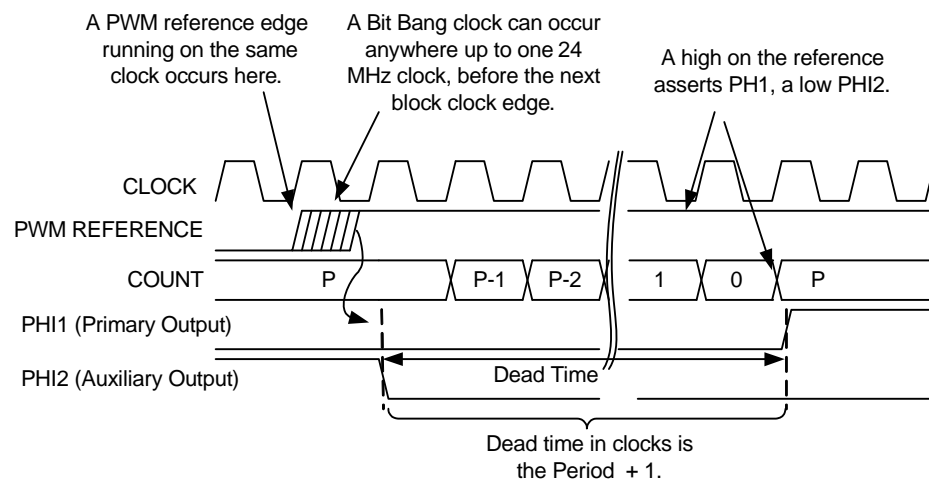

Figure 17-9. Basic Dead Band Timing
**Normal Operation.** Figure 17-9 shows typical dead band timing. The incoming reference edge can occur up to one 24 MHz system clock before the edge of the block clock. On the edge of the block clock, the currently asserted output is negated and the dead band counter is enabled. After Period + 1 clocks, the phase associated with the current state of the PWM reference is asserted (Reference High = Phase 1, Reference Low = Phase 2). The minimum dead time occurs with a period value of 00h and that dead time is one clock cycle.